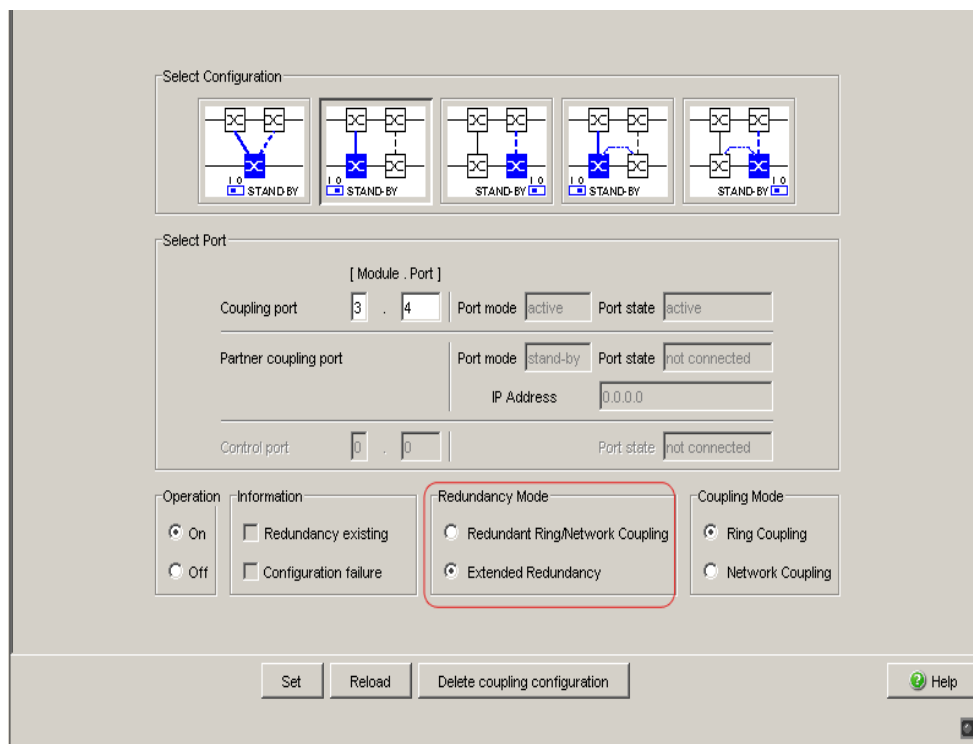

Figure 33: Selecting the redundancy mode
- ☐ Select two-Switch redundant coupling (see fig. 33).
- ☐ In the “Redundancy Mode” frame, select \(see fig. 33\)